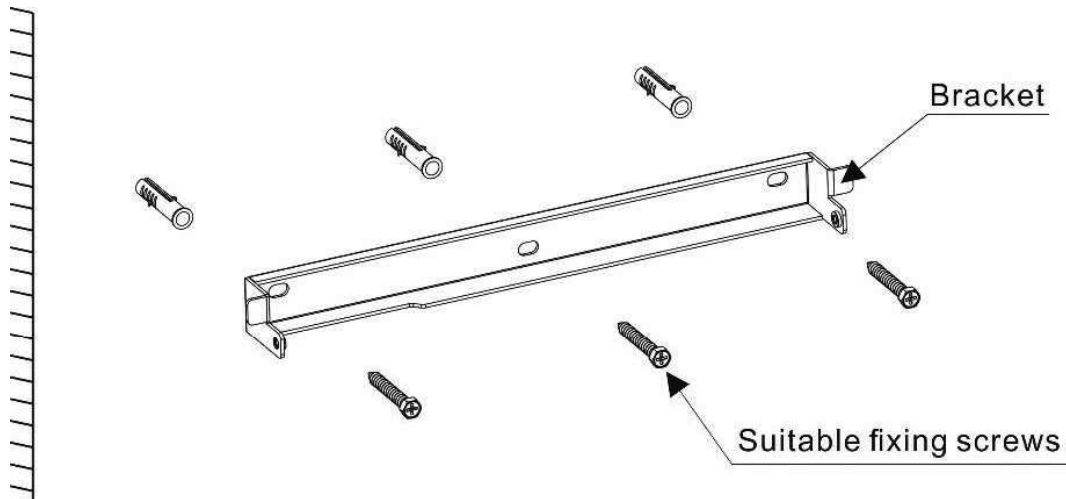
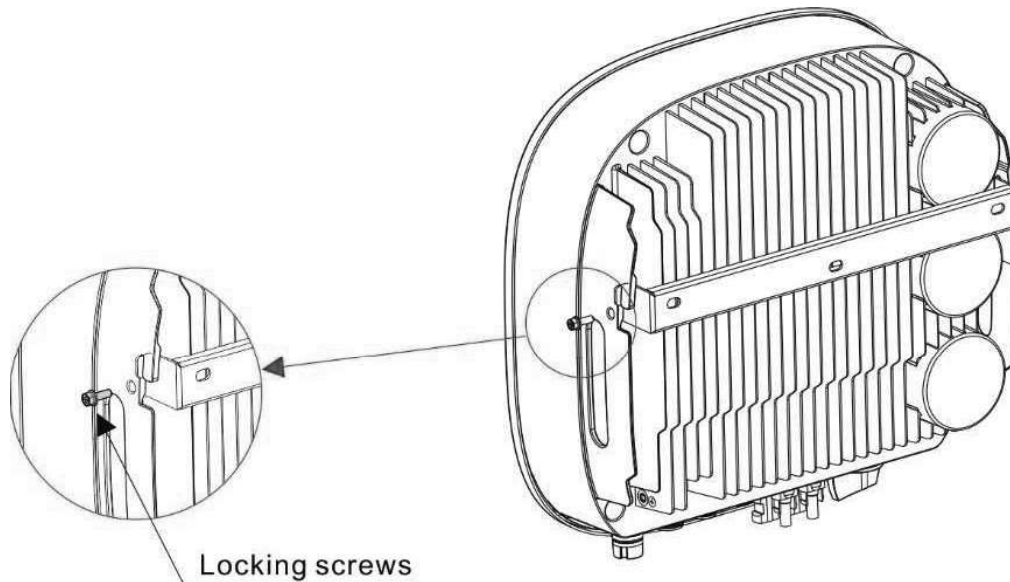

Figure 4.4 Inverter wall mounting
Figure 4.5 Wall Mount Bracket
Please see Figure 4.4 and Figure 4.5 for instruction on mounting the inverter.
2. Make sure the bracket is horizontal and the mounting holes (in Figure 4.4) are marked correctly. Drill the holes into the wall or pillar at your marks.
4. Lift up the inverter (be careful to avoid body strain), and align the back bracket on the inverter with the convex section of the mounting bracket. Hang the inverter on the mounting bracket and make sure the inverter is secure (see Figure 4.5).